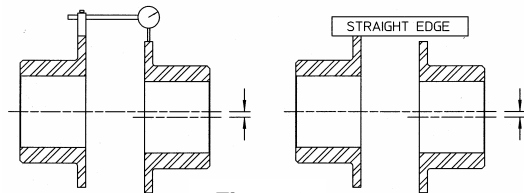

Figure 3
E. Parallel Offset. Rigidly mount a dial indicator on one hub or shaft, reading the other hub flange outside diameter, as shown in Figure 3. Compensate for indicator set-up sag. Rotate both shafts together. Adjust the equipment by shimming and/or moving so that the indicator reading is within .002 inch per inch of the axial length between flex elements. See Table 1.